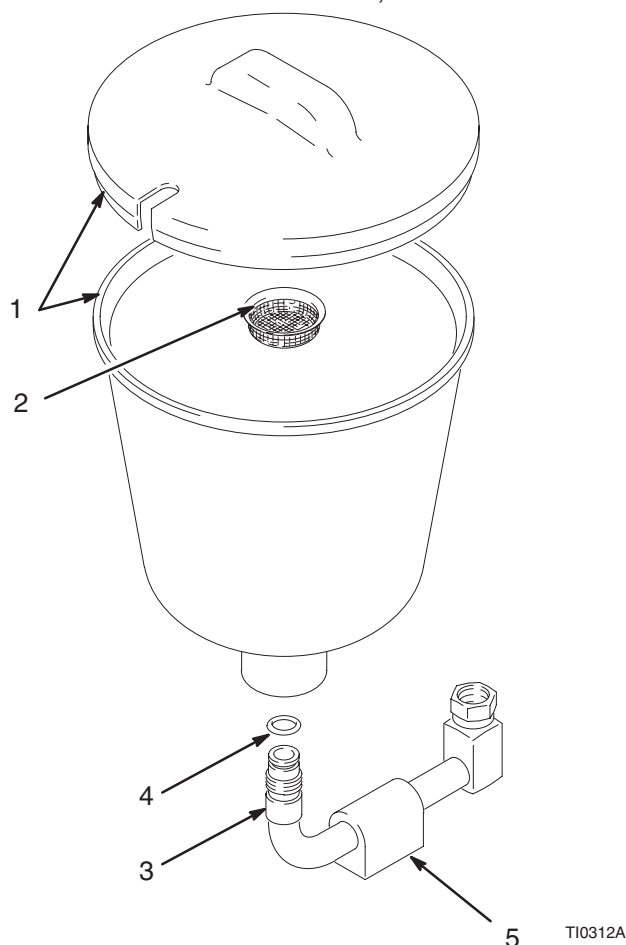

Fig. 1
2. Rinse and dry the inside of the hopper (1).
4. Screw the new tube (3) into the pump so it faces straight forward.
5. Be sure the o-ring (4, Fig. 1) is in place and then screw the hopper (1) securely onto the tube.
6. Be sure the screen (2, Fig. 1) is in place at the inside bottom of the hopper. Refer to the parts drawing on the front of this manual.